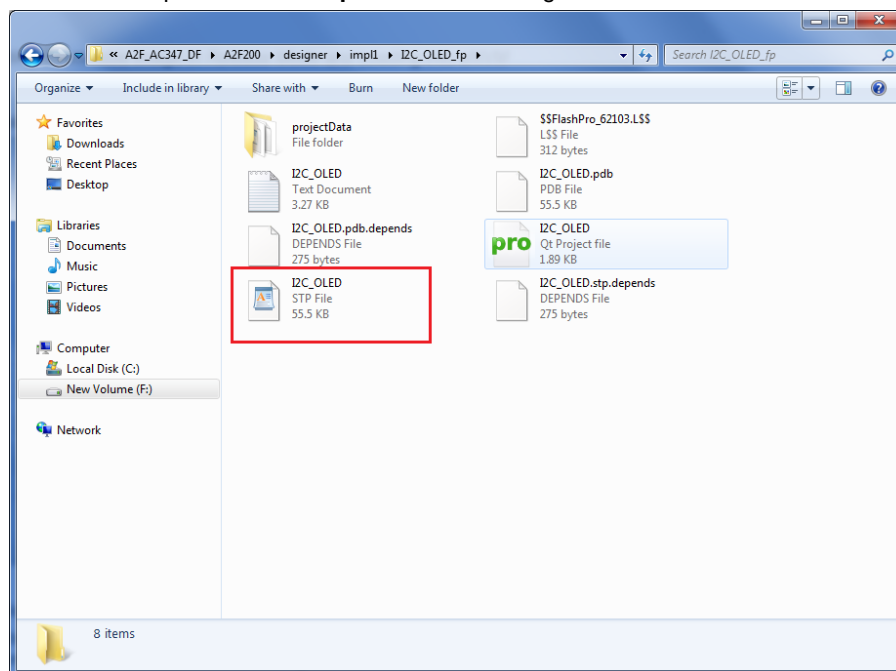

Figure 15 · Selecting .stp File
16. Select the .stp file and click **Open** as shown in Figure 15 . .